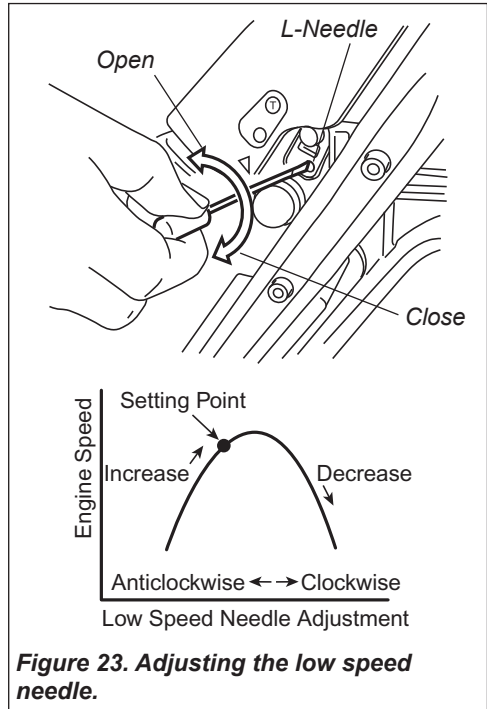

Figure 23. Adjusting the low speed needle.
1. Use a small screwdriver to turn the low speed needle to the Standard Setting, which is of $1\frac{1}{2} \pm \frac{1}{4}$ turns from the fully-closed position. See Figure 23.